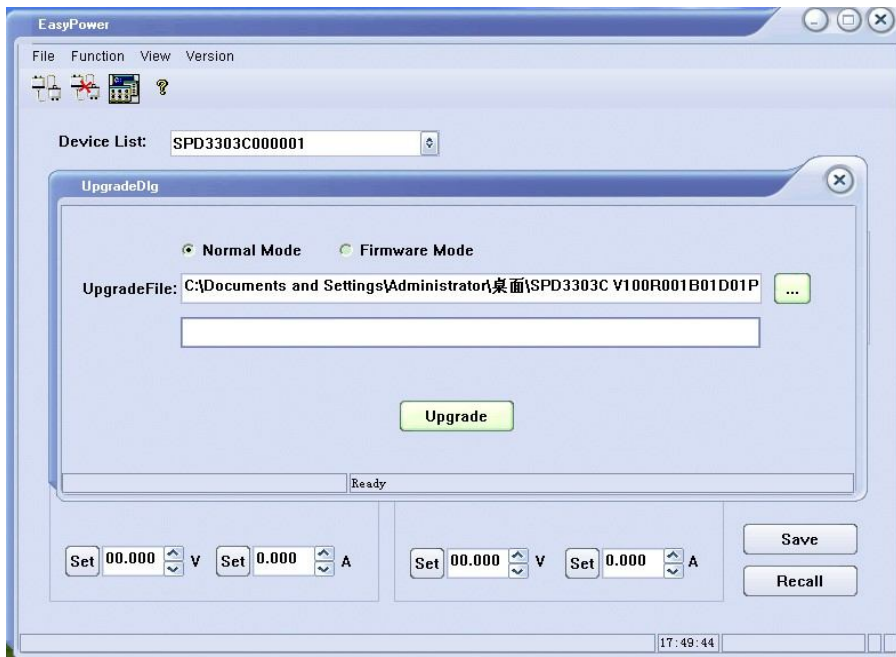

Figure 4
4. As it shows in figure 4, click the “Upgrade” to start upgrading. The instrument will run the upgraded software as soon as the upgrading completed.